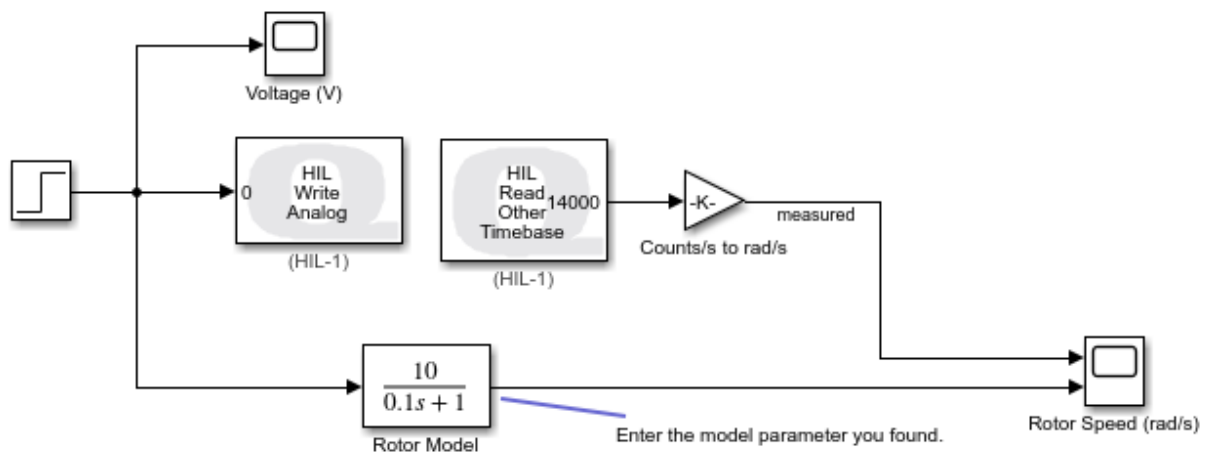
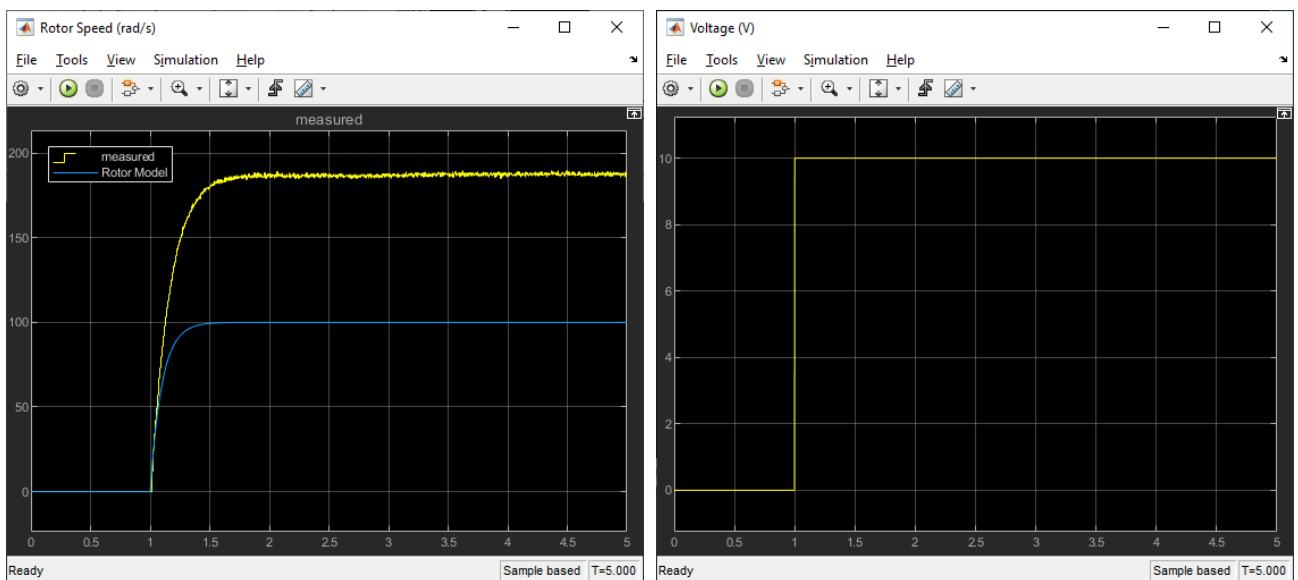

Figure 3 - `q_aero2_rotor_model_val` Simulink model is used to validate the rotor model.
Figure 4 - Sample response from `q_aero2_rotor_model_val` Simulink model.
In this section, the rotor model you found is ran in parallel with the hardware to see how well the model represents the actual system. The *q_aero2_rotor_model_val* Simulink model shown in Figure 3 applies a 10V step to the Aero 2 front rotor, i.e., motor 0, and the transfer function model. The rotor speed measured from the digital tachometer and the simulated rotor speed from the model are displayed in the *Rotor Speed* scope.
3. Enter the transfer function parameters, K and τ , that you found in the *Rotor Model* Transfer Fcn block in the Simulink model, as illustrated in Figure 3.
4. Build and run the `q_aero2_rotor_model_val` Simulink model in QUARC by clicking on the *Monitor & Tune* button in the *Simulink Hardware* tab. See the sample response shown in Figure 4. Note that this is using the default transfer function $10/(0.1s + 1)$ shown in Figure 3 and is not the correct model of the rotor.